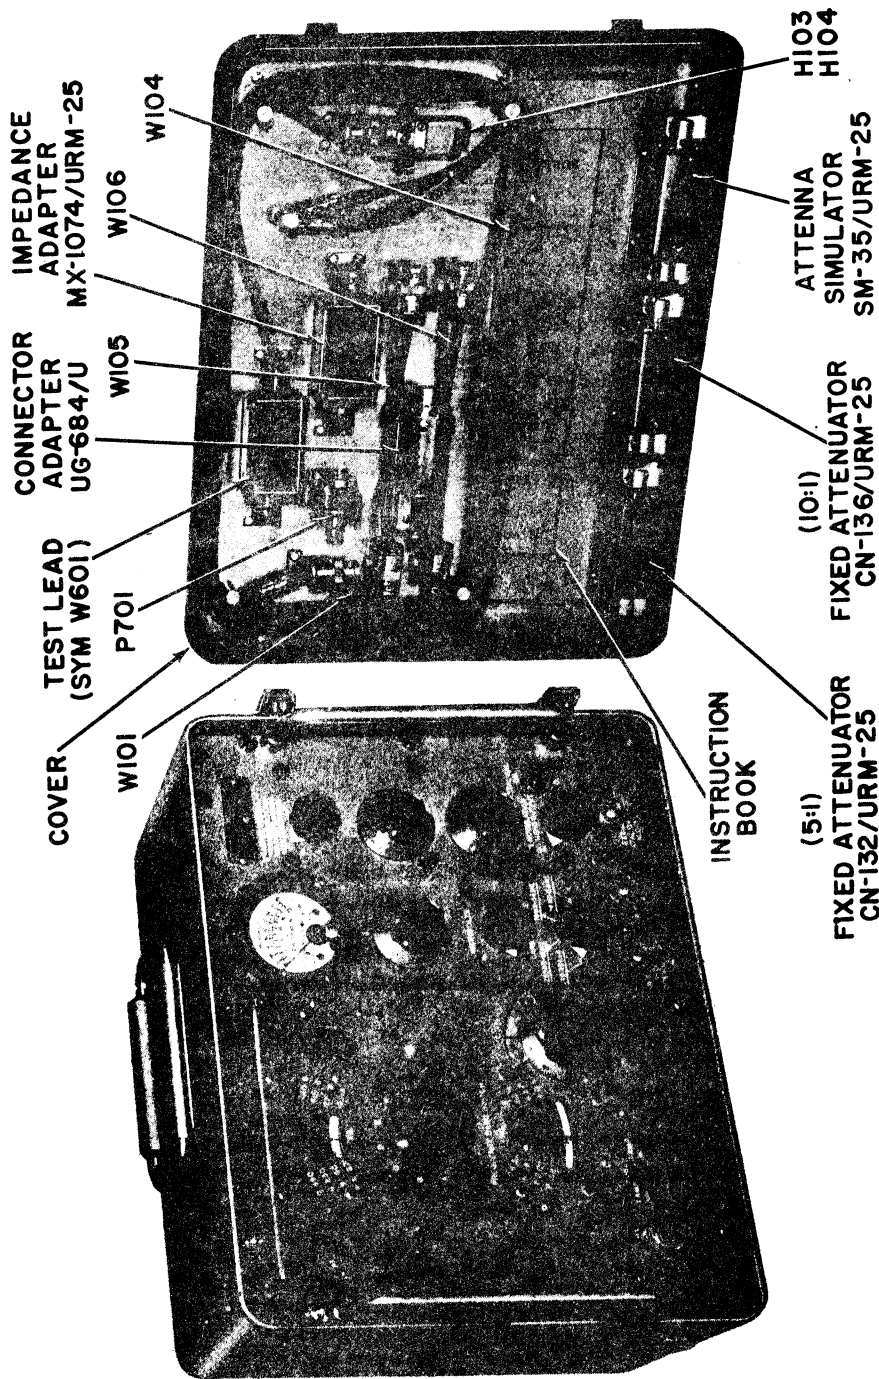

Figure 1-1. RF Signal Generator Set AN/URM-25C, Complete Equipment
b. All units including the power supply, are incorporated in a single portable cabinet (See figure 1-1). The units supplied with their corresponding weights are shown in Table 1-1.
- (1) RF Signal Generator SG-44C/URM-25
- (2) Power Supply PP-562A/URM-25
- (3) Impedance Adapter MX-1074/URM-25
- (4) Antenna Simulator SM-35/URM-25
- (5) (5:1) Fixed Attenuator CN-132/URM-25
- (6) (10:1) Fixed Attenuator CN-136/URM-25
- (7) Test Lead CX-1363/U
- (8) RF Cable Assembly CG-409A/U (4'0")